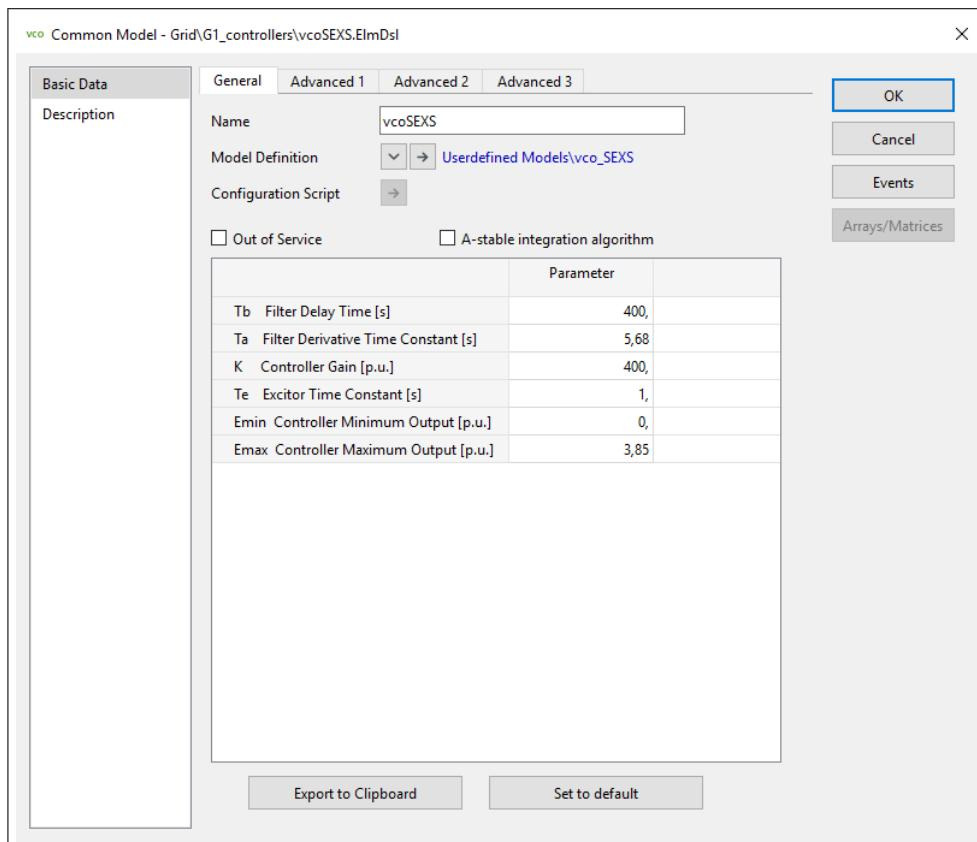

Figure 30.1.5: Example of a Common Model Using the Definition "vco\_simple"
- The voltage controller, and primary controller unit, however, are user-defined **Common Models**, see Figure 30.1.5. The 'front-end' of all user-defined transient models is always a common model (*ElmDsl*), which combines a model definition with specific parameter settings. There are predefined definitions as well, so that the user can create model definitions as required.